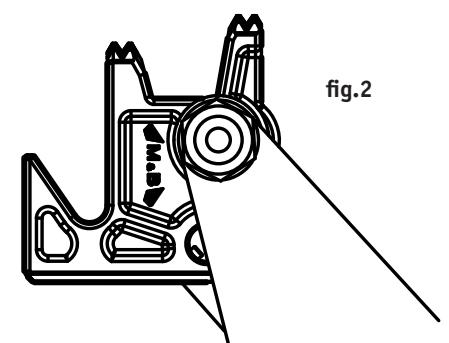

fig.2
**GRIFFA DI BLOCCAGGIO (fig.2)**
**LOCKING JAW (fig. 2)**
**GRIFFE DE BLOCAGE (fig.2)**
**BLOCKIERKLAUE (Abb.2)**
**MORDAZA DE BLOQUEO (fig. 2)**